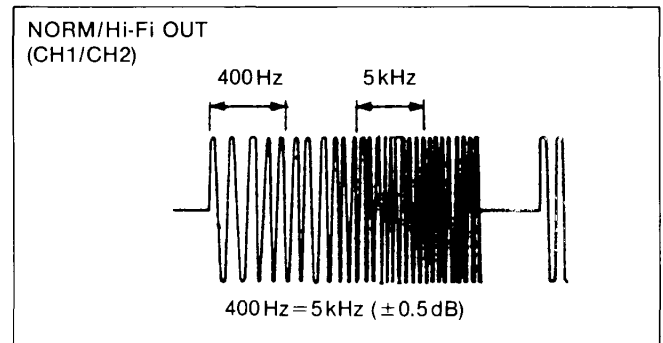

Figure E45
- Adjust VR4005 (CH1) and VR4007 (CH2) so that the 400 Hz and 5 kHz levels become the same (0 +/- 0.5 dB) as shown in Figure E45.